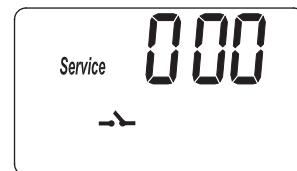
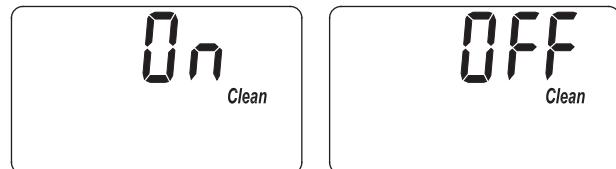
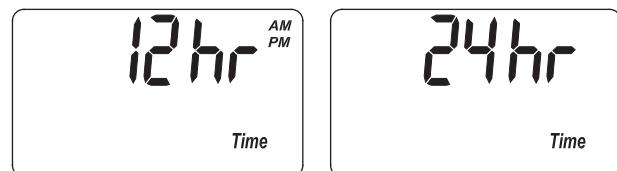

FIG. 28
FIG. 29
FIG. 32
1. Press and hold the PROGRAM button until the screen in Figure 28 is displayed. Once in this display, press the PROGRAM button twice and one of the two displays in Figure 29 is shown.
1. Press and hold the PROGRAM button until the screen in Figure 28 is displayed. Once in this display, press the PROGRAM button three times and the display in Figure 30 is shown.
1. Press and hold the PROGRAM button until the screen in Figure 28 is displayed. Once in this display, press the PROGRAM button four times and the display in Figure 31 is shown.
1. Press and hold the PROGRAM button until the screen in Figure 28 is displayed. Once in this display, press the PROGRAM button five times and one of the two displays in Figure 32 is shown.